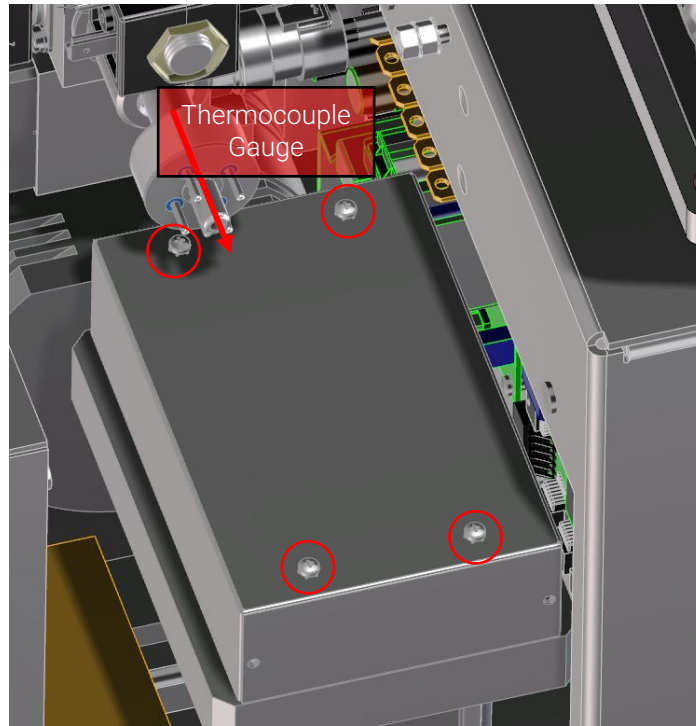
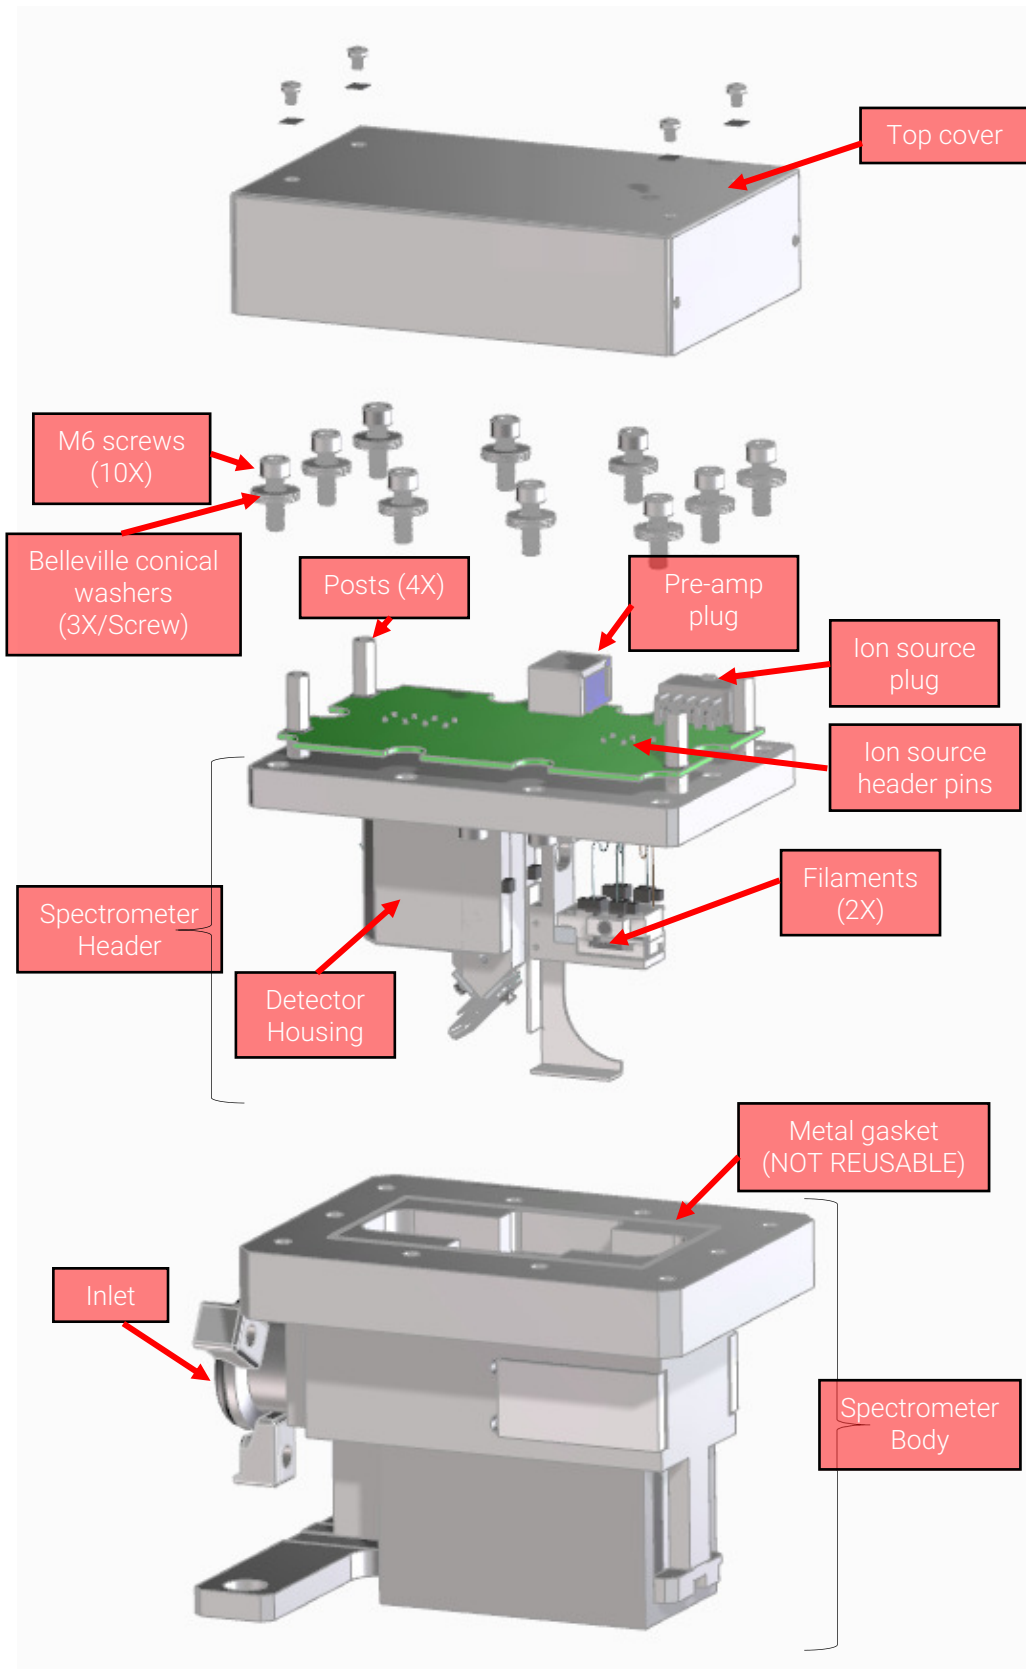

Figure 3-4. Spectrometer access
Figure 3-5. Spectrometer exploded view
7. To remove the spectrometer top cover, it may be necessary to first pull straight out the thermocouple gauge (shown in Figure 3-4 with the red arrow. It is shown without the outside black plastic cover). Leave the thermocouple gauge connected to its wiring. Use an M3 Phillips head screw driver to remove the four screws securing it. The screw shown in the top right of Figure 3-4 will be securing a grounding strap. Leave the ground strap hanging from the leak detector frame. Disconnect the two electrical cables plugged into the spectrometer board, the pre-amp RJ45 style connector on the turbo side of the spectrometer, and the ion source multi-pin connector (Cables not shown for clarity: refer to Figure 3-5). Remove the top cover, set aside with the screws.